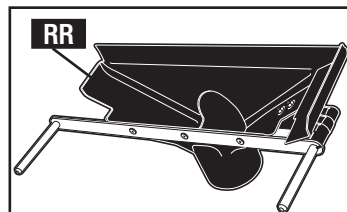
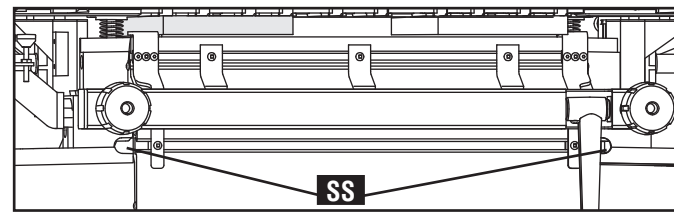
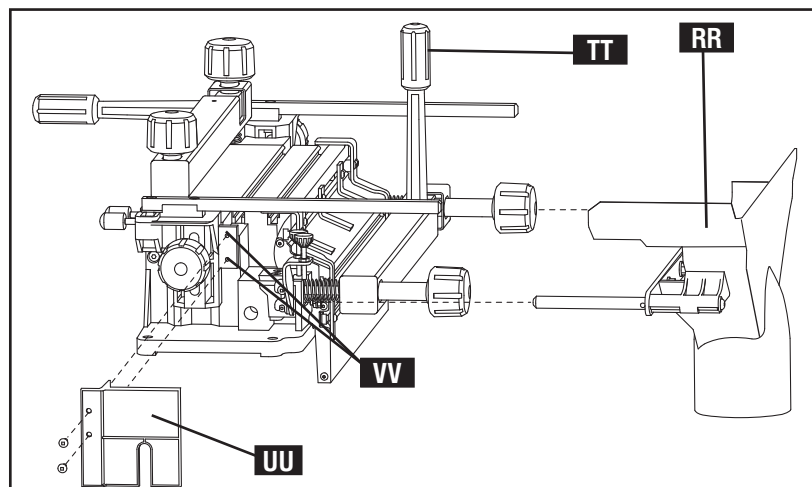

Fig. C22
Fig. C23
Fig. C24
A dust collection shroud (RR) Fig. C22 is available as an accessory for the OMNIJIG. The 16" unit requires Cat. No. 55164, while the 24" model uses Cat. No. 77244. Both shrouds have a 4" port that allows for direct attachment to a standard dust collection system.
After assembly, the shroud (RR) Fig. C22 can slide right into the two holes (SS) Fig. C23 at the bottom front of the OMNIJIG® base. Before sliding the shroud in, be sure the front workpiece clamping handle (TT) Fig. C24 is up as shown. Install the chip catcher (UU) to the two holes (VV) in the side of the OMNIJIG® base using two supplied square drive screws.